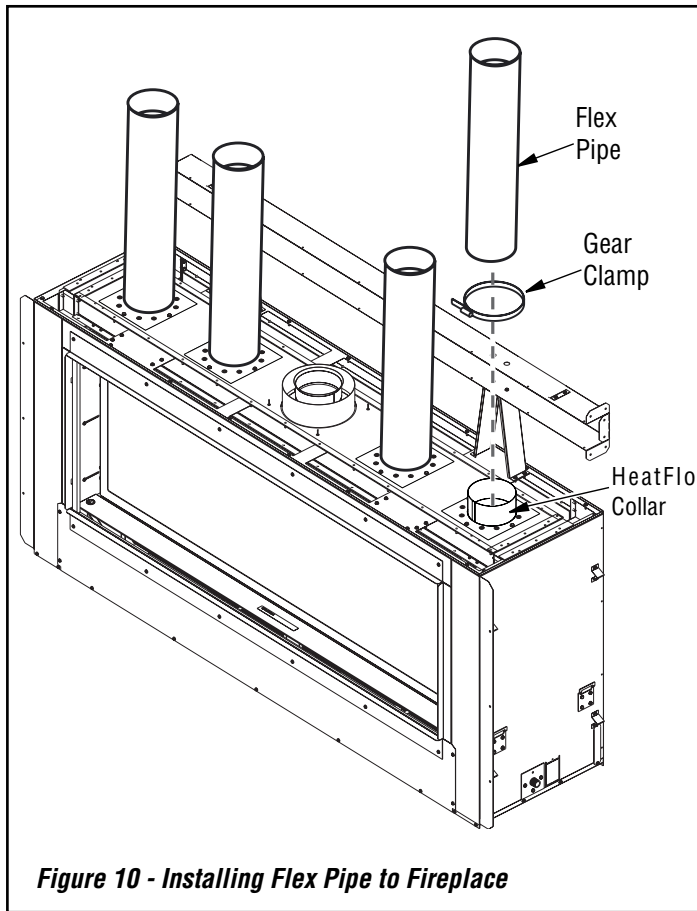

Figure 10 - Installing Flex Pipe to Fireplace
6. With fireplace and heat register in place, attach the approved flex pipes (supplied with kit) to each of the collars on the fireplace top and secure them with gear clamps (provided with kit) see **Figure 10. NOTE: DO NOT SLICE PIPES!**